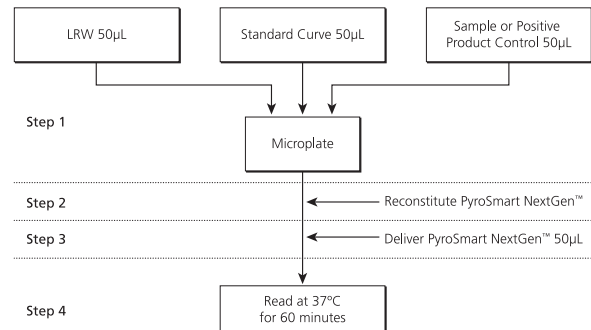

Figure 2: A Schema of the Test Procedure for Microplate Reader Assays
- Prepare the test run as shown in Figure 2.